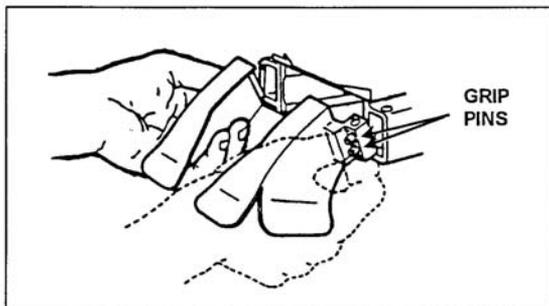

Figure 071-030-0001-1. Removal of feed throat assembly
a. Remove the feed throat assembly (figure 071-030-0001-1). Squeeze the two sets of grip pins together and pull them straight out.